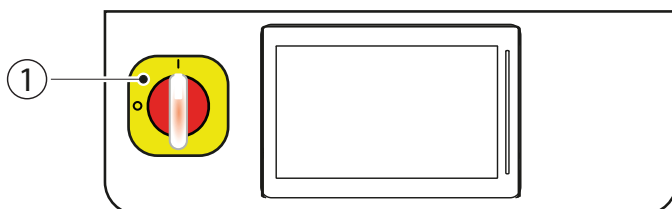

Fig. 6.a
1. switch on the pumping station by turning the disconnect switch (1 - Fig. 6.a) from O (OFF) to I (ON)
2. switch on all the zone panels by pressing the power button on the side of the device (2 - Fig. 6.b).